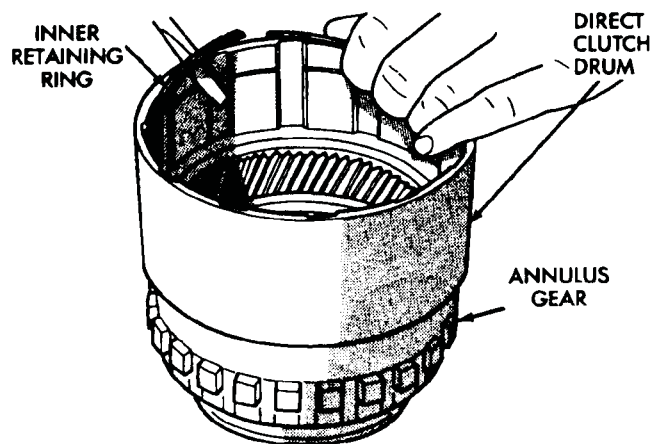

Fig. 30 Removing Clutch Drum Inner Retaining Ring
(20) Remove direct clutch drum rear retaining ring (Fig. 30).